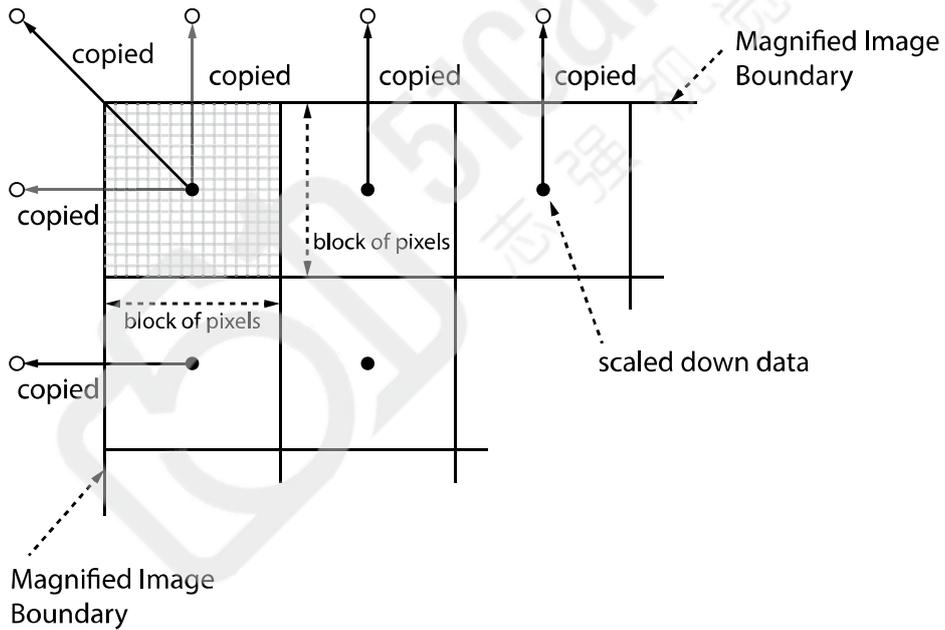

Figure 5-11 Bilinear Interpolated Magnification
- 4 Save the Flat Field data to non-volatile memory by using the Flat Field Data Save parameters. The reduced Flat Field data is enlarged using bilinear interpolation, as shown in <Figure 5-11 Bilinear Interpolated Magnification>, before being applied for correction. To disregard the generated Flat Field correction data and load the existing Flat Field correction data, execute the Flat Field Data Load parameter before executing the Flat Field Data Save parameter.